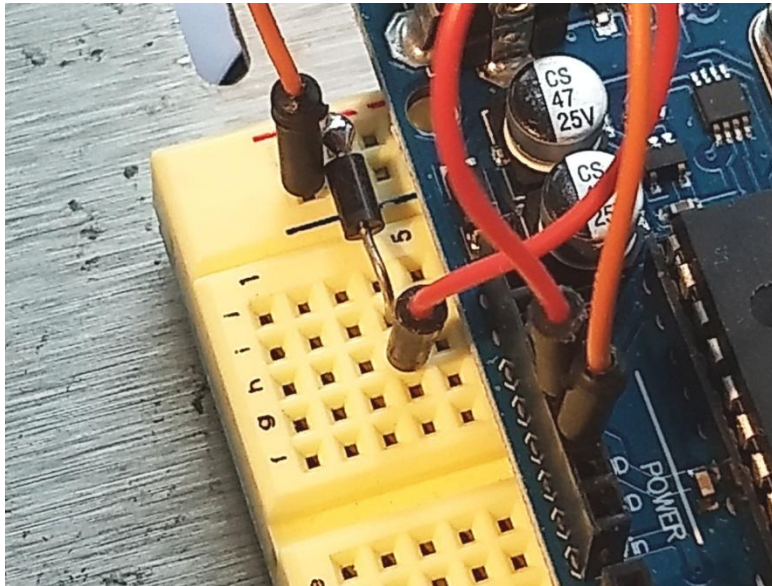

Figure 16. Connecting power through a Schottkey diode.
5. Move the jumper cable that connects the 5v power port from the red rail and insert it into hole H4. Connect a Schottkey diode from the red power rail to hole I4 facing the positive end toward hole I4, as shown in Figure 16.